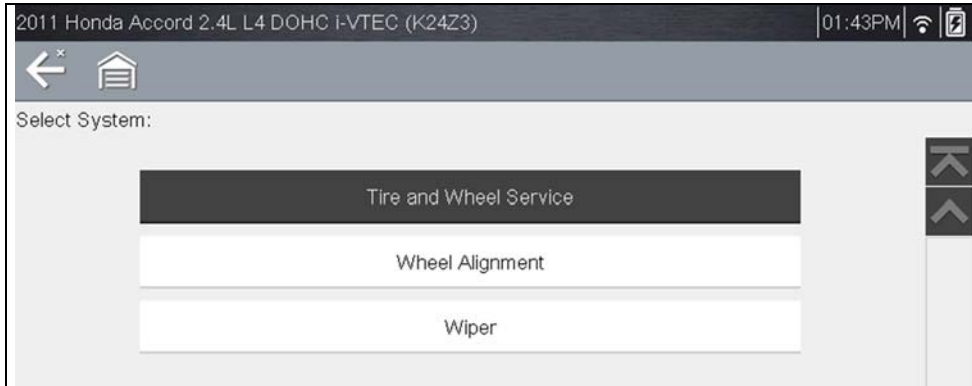

Figure 9-11 Scanner System Menu - Tire and Wheel Service Option
- **From within a current Scanner session** - select **Tire and Wheel Service** (or applicable choice) from the System menu (Figure 9-11), follow the screen prompts to identify the vehicle, and then proceed to Step 4.